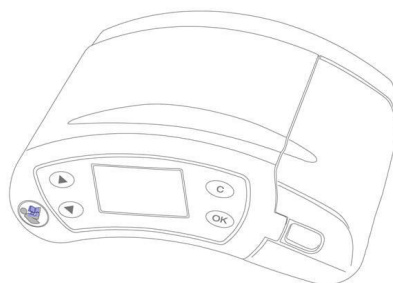

Fig. 5 DYSSUCTION® Suction Device M horizontal
3. Position the device upright or horizontal (Abb. 5) on a flat, solid surface without tilting it. The device can also be placed beside the patient's bed. Adjustable holders for tubing and rail systems are available for this purpose.